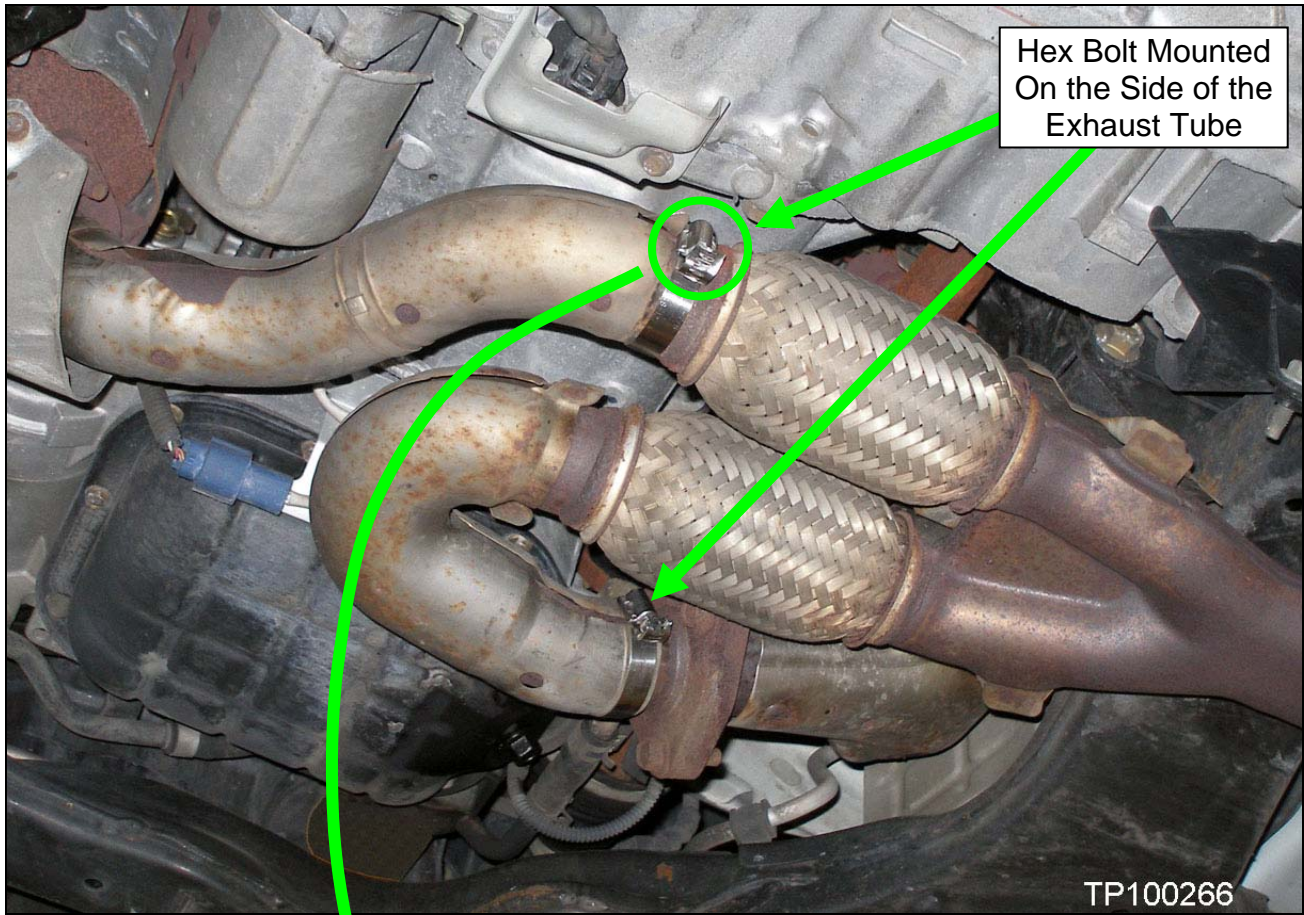

Figure 1
5. Secure the band clamp with the hex bolt located on the side (or on top, if needed). See Page 4, Figure 1 for example.